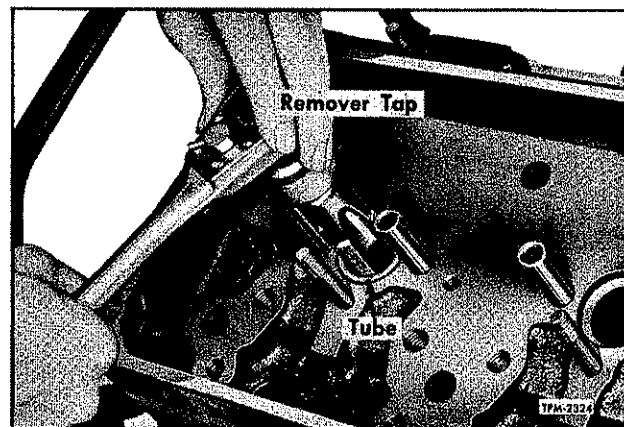

Figure 76—Removing Injector Copper Tube from Cylinder Head (Operation No. 1)
2. Apply a small amount of light engine oil to inside of copper tube, then thread tap into copper tube until approximately $\frac{3}{4}$ " of threads are obtained. Refer to figure 76.